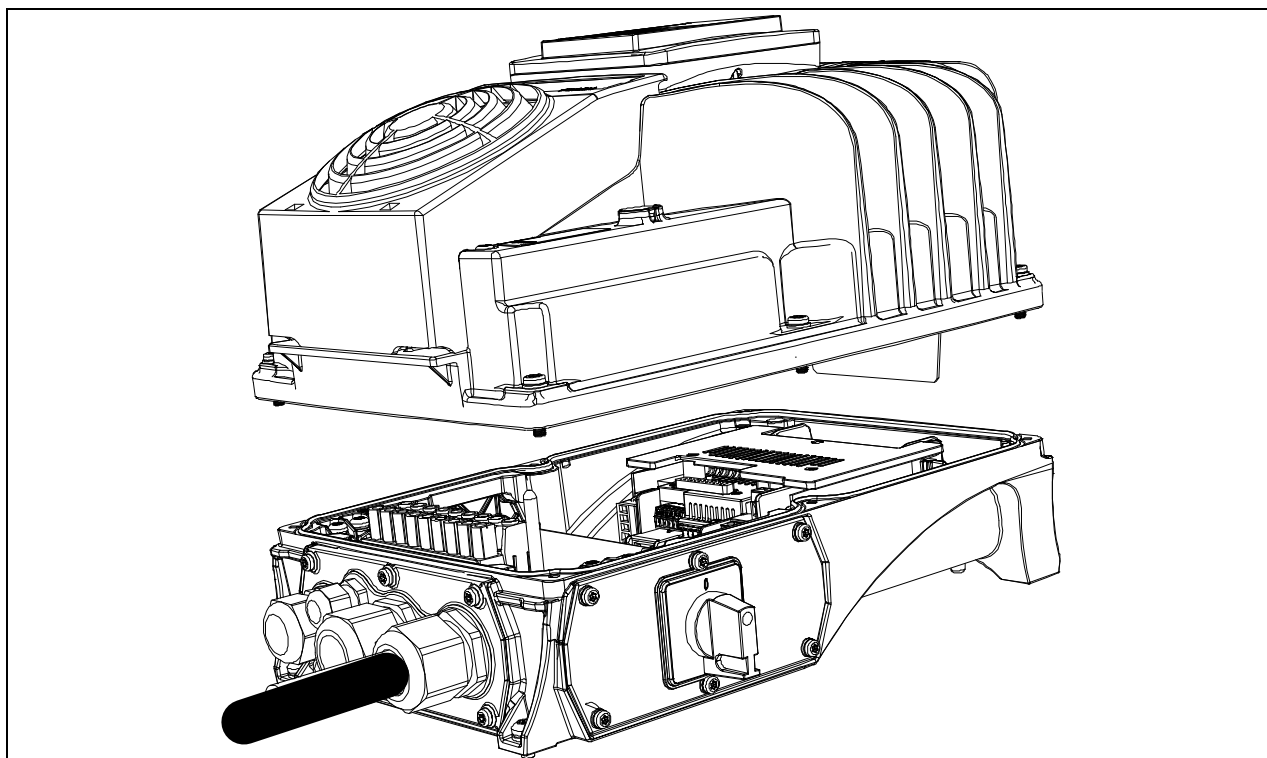

Figure 51. Mount the powerhead on the terminal box.
- Mount the powerhead on the terminal box with its screws: the installation process has been completed. See Figure 51.